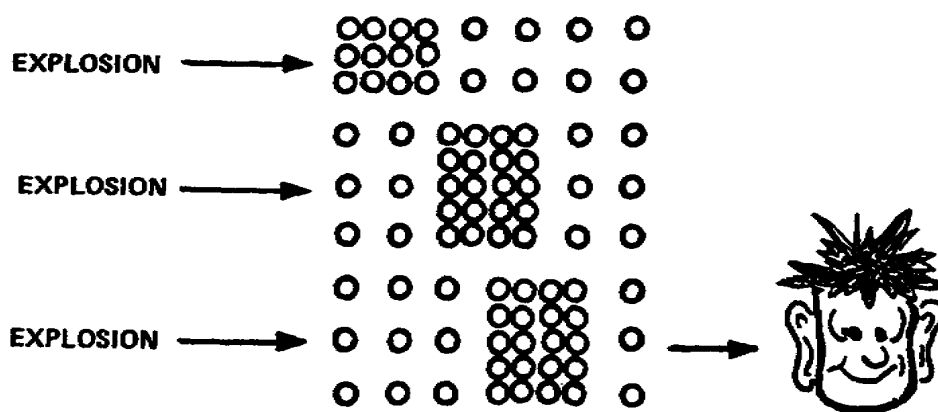

Figure 1-4. Rarefactions and compressions
c. As the compressed molecules return to their original state, the molecules right next to them become compressed and then they expand. This occurs down the line in the medium until the collisions of the molecules from the compressions and rarefactions reach the eardrum (fig 1-4).